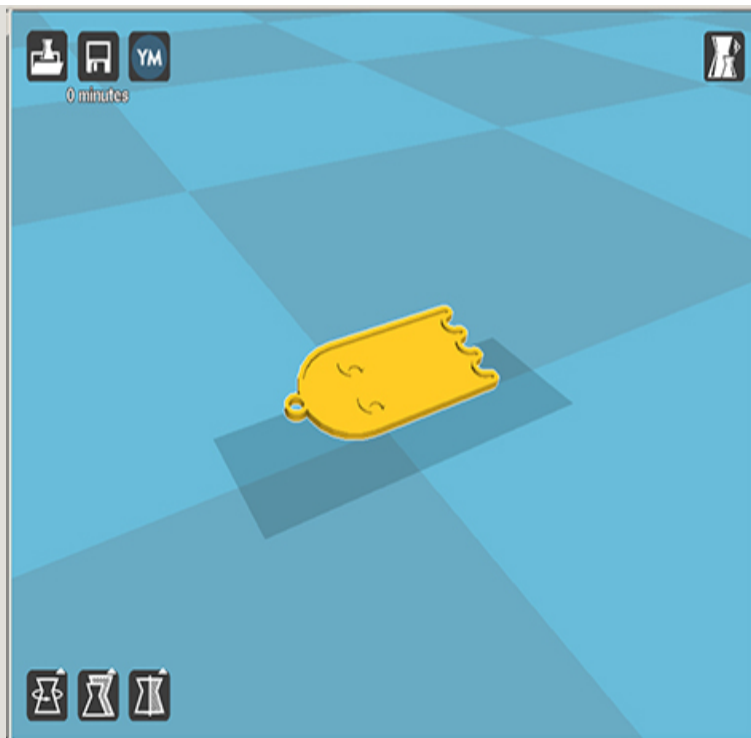

Figure 6-29 The model is not resting directly on the facsimile platform. This may result in a longer processing time.
■ **The slicer takes an overly long time to send the model to the printer.** Is the model resting directly on the facsimile platform? Slicers can still process a model not on the platform (Figure 6-29), but it often takes much longer.